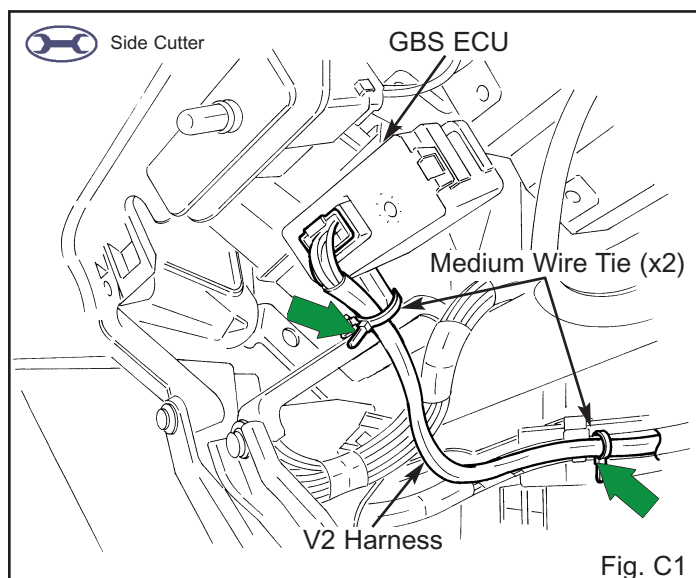

Fig. C1
1. Secure the V2 harness to the GBS ECU mounting bracket with one medium wire tie. (Fig. C1)
2. Route the V2 harness toward the glove box area, then secure it to the vehicle harness with one medium wire tie. (Fig. C1)